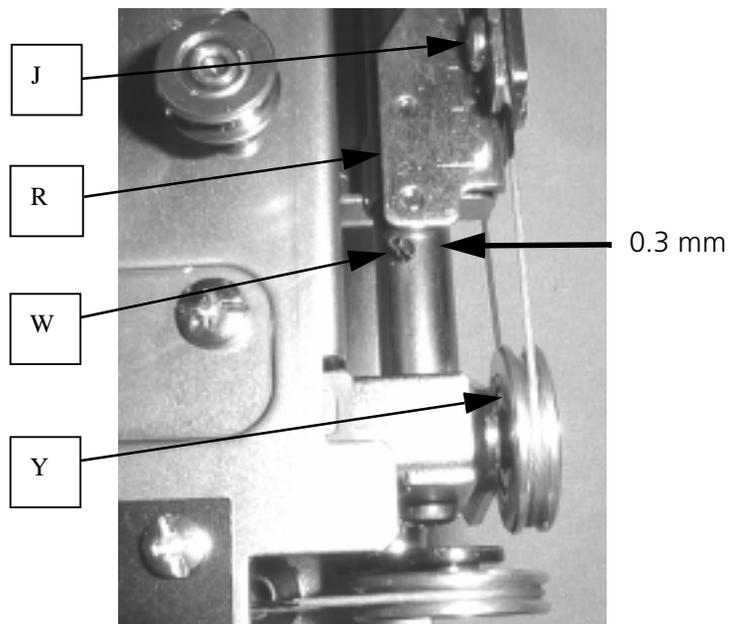
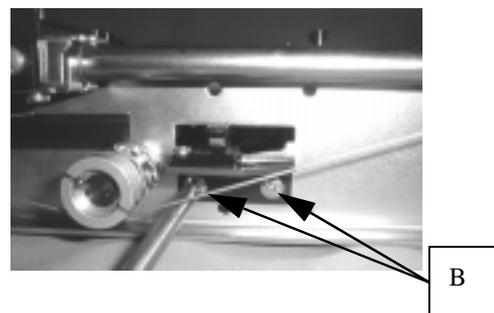
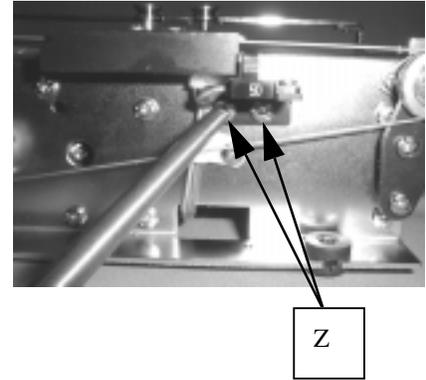

FIGURE 16-12
FIGURE 16-13
FIGURE 16-14
21. Continue pushing ← key as shown in Fig.16-12 to bring the X-carriage (R) in the Y-sensor direction until it no longer moves, and make sure that the gap (a) between the spring pin 2x16(W) and X-carriage (R) is more than 0.3mm. If the gap (a) is less than 0.3mm, loosen setscrews (B) of X-sensor, and relocate the X-sensor leftward. Fig.16-13. Push → key, and make sure that the gap (a\*) between the side plate A and X-carriage (R) is more than 0.3mm.
22. If the Y-direction wire has been replaced, make sure that gaps (b) and (b\*) between the Y-carriage and stopper (Y) are more than 0.3mm by using  $\uparrow$  and  $\downarrow$  keys before and after replacement. If gap (b) is less than 0.3mm as shown in Fig.16-12, loosen setscrews (Z) of the Y-sensor and shift the Y-sensor backward (or leftward in case of Fig.16-14).